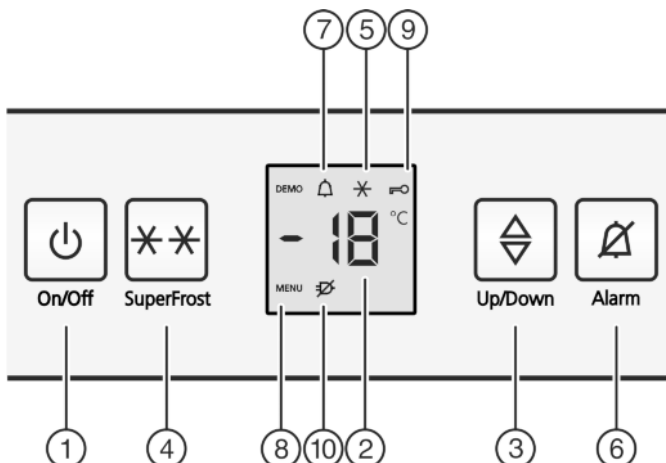

Fig. 2
- The SuperFrost symbol *Fig. 2 (5)* flashes together with the temperature display.*
- ▶ Press the On/Off button *Fig. 2 (1)*.
- ▷ The appliance is switched on. The temperature display and Alarm symbol *Fig. 2 (7)* flash until the temperature is cold enough.
- ▶ Activate setting mode: press the SuperFrost button *Fig. 2 (4)* for approx. 5 seconds.
- ▷ The Menu symbol *Fig. 2 (8)* is shown on the display.
- ▶ Briefly confirm with the SuperFrost button, *Fig. 2 (4)*.
- ▷ The child lock symbol *Fig. 2 (9)*, lights up on the display.
▶ Briefly press the On/Off button *Fig. 2 (1)*.
- ▷ The child lock symbol *Fig. 2 (9)* goes out.
- ▶ Briefly press the On/Off button *Fig. 2 (1)*.
- ▶ Press alarm button *Fig. 2 (6)*.
The temperature display and the alarm symbol *Fig. 2 (7)* flash at the same time.
The audible alarm is automatically silenced, the alarm symbol *Fig. 2 (7)* goes out and the temperature display stops flashing when the temperature is sufficiently cold again.